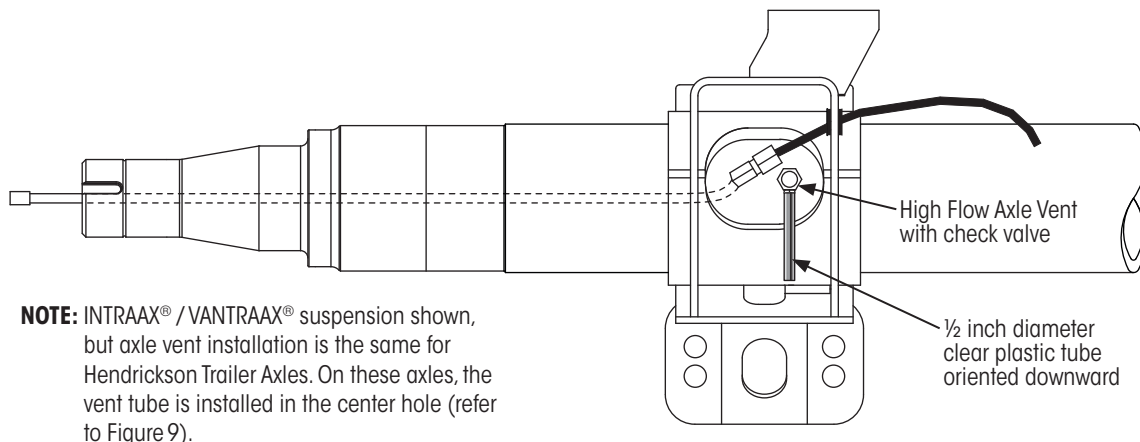

Figure 17: Typical axle vent installation
The High Flow Axle Vent is installed in the previously drilled hole as shown in Figure 17. Refer to Axle Preparation on page 14 for drilling details.
1. Install axle vent into hole provided in axle (Figure 17 on page 19) and hand-tighten.
2. Using a 1 inch socket, **tighten** vent body to 10 ft. lbs. (13 Nm) of torque, then rotate to aim tube fitting downward as shown in Figure 17.